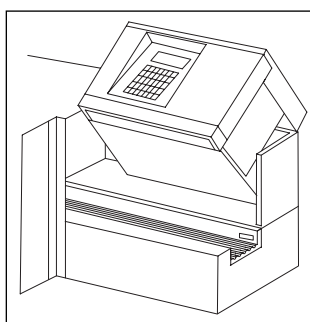

Figure 9.3
3. Move the display face back into place and tilt back right half of instrument (Figure 9.3).